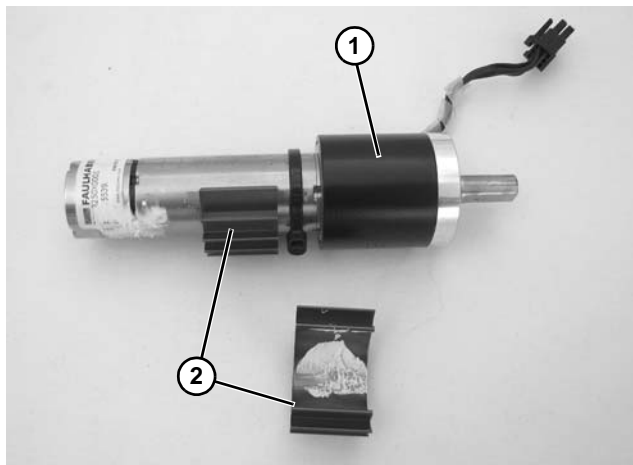

Figure 75
- Remove motor (**Figure 75, item 1**).
- Snap off heat sinks (**Figure 75, item 2**).